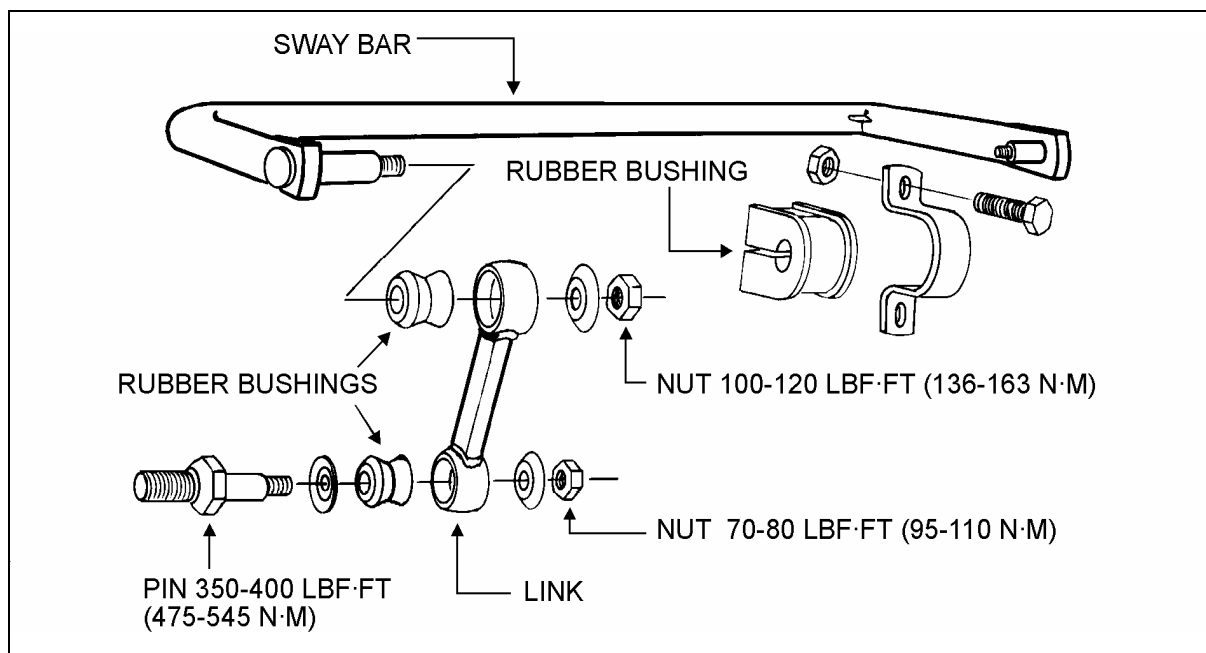

FIGURE 10: FRONT & DRIVE AXLE SWAY BAR
2. Place a flat steel disc, slightly smaller than the outside diameter of the bushing (Fig. 10).
A sway bar is provided on the front and drive axles to increase vehicle stability. It controls lateral motion (swaying movement) of vehicle (Fig. 10).
2. Tighten the eight bushing collar nuts to 70 - 80 ft•lbf (95 - 110 N•m) (Fig. 10).
3. Tighten sway bar link upper nuts to 100 - 120 ft•lbf (136 - 163 N•m) and lower nuts to 70 - 80 ft•lbf (95 - 110 N•m) (Fig. 10).